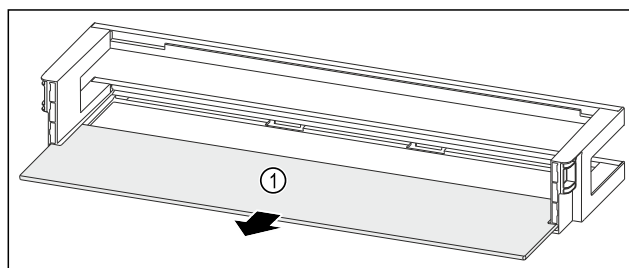

Fig. 56 Door rack with shelf
- Remove the shelf Fig. 56 (1).